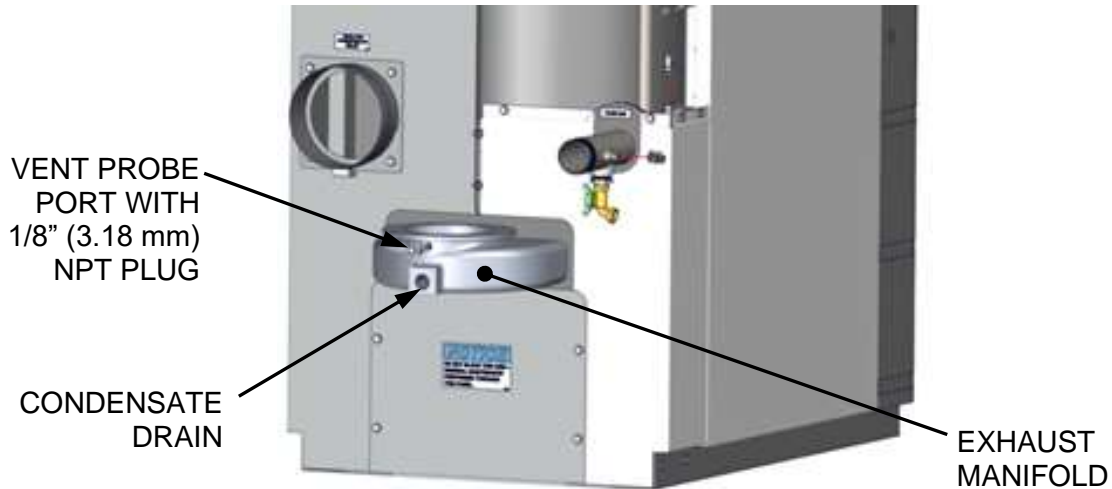

Figure 4-2. Analyzer Probe Hole Location
The unit contains a 1/8" NPT port at the rear of the exhaust manifold. This port is located above the condensate drain connection as shown in Figure 4-2. Prepare the port for the combustion analyzer probe as follows:
1. Refer to Figure 4-2 and remove the 1/8" NPT plug from the rear of the exhaust manifold.